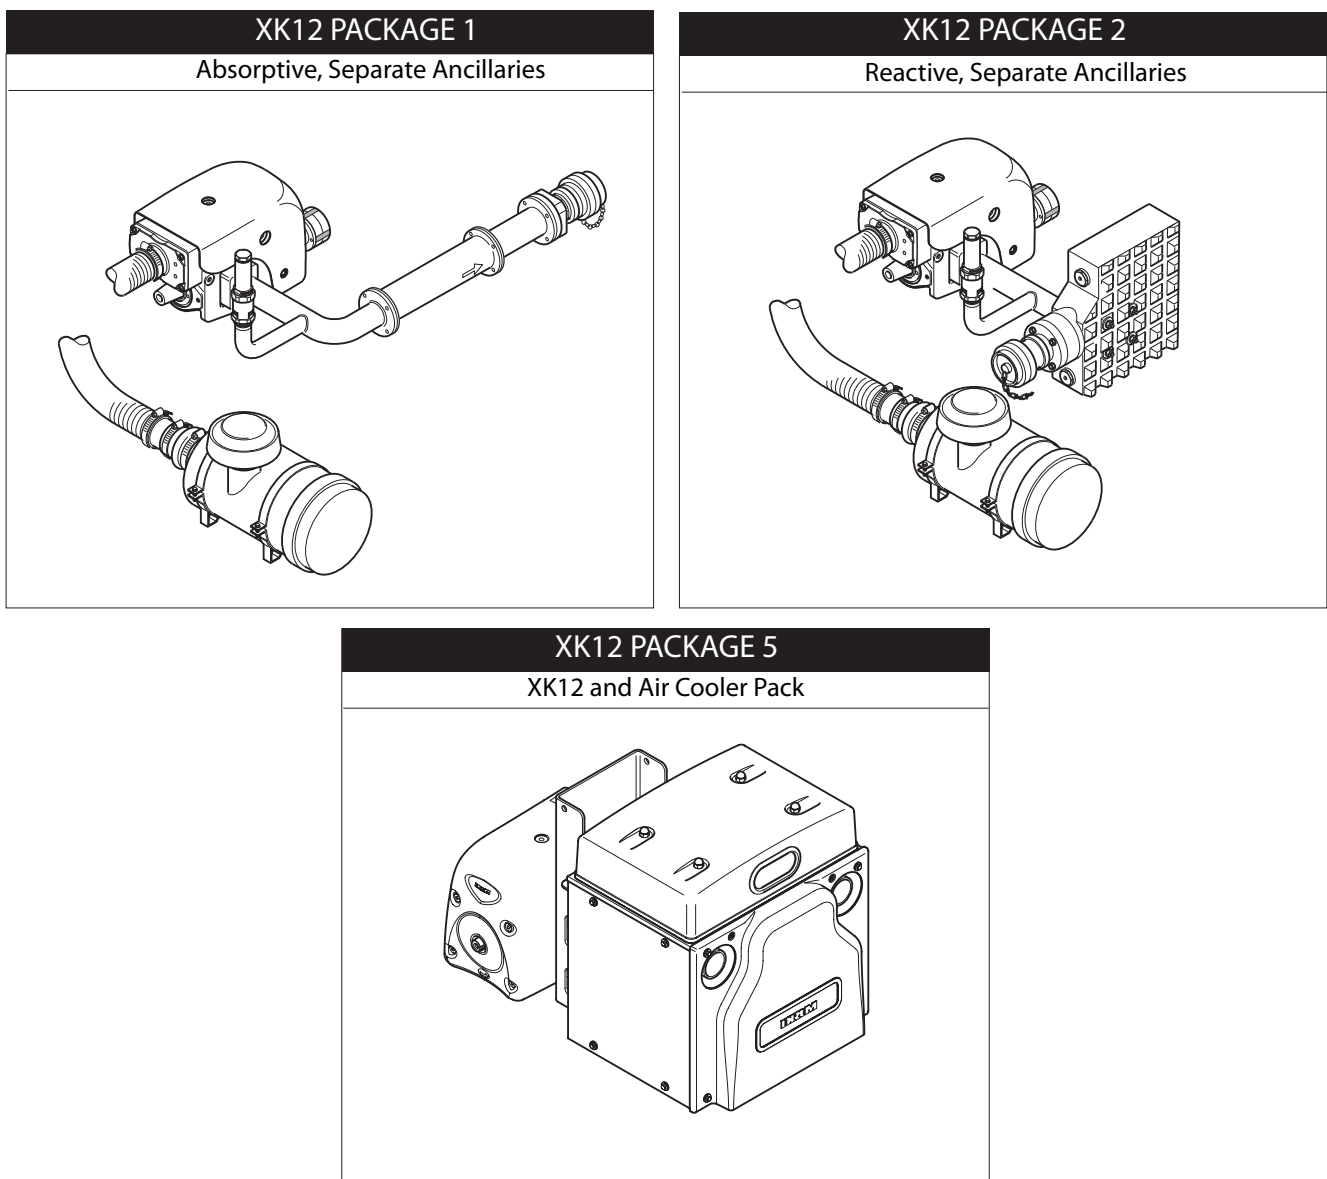

Figure1. Standard Packages (1, 2 & 5)
2.3 Available packages - see fig 1
For the recommended layout of the machine and ancillaries, see figure 1.